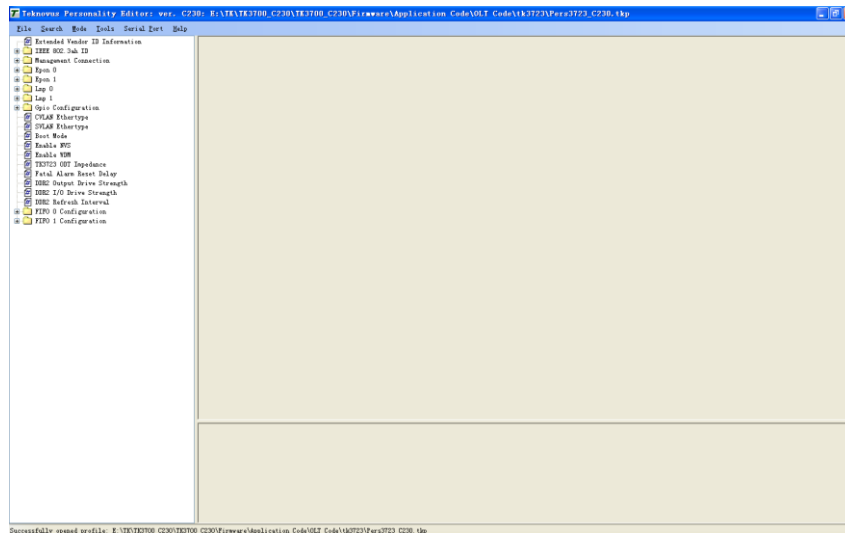

Figure 8-25 PersEditor Interface
2. Open the Pers3723_C230.tkp with the installed tkPersEditor.exe shown in the Figure 8-25;